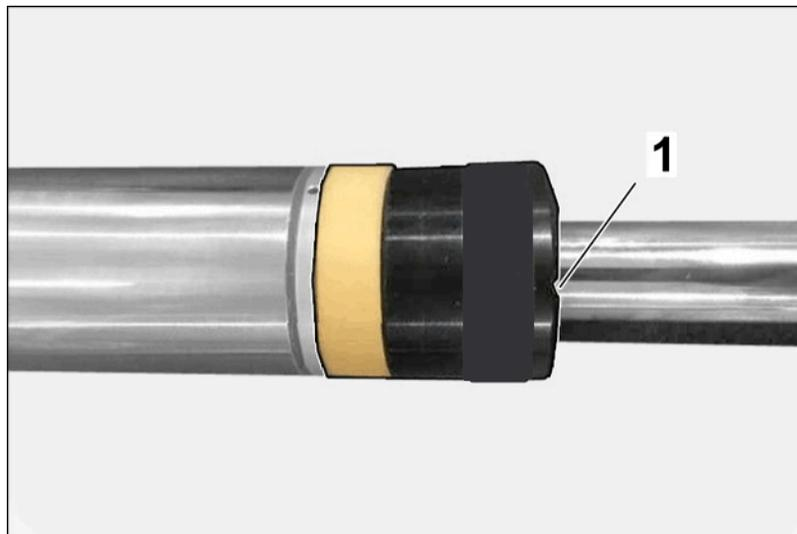

Figure 6
- 4. – All four components must be installed in the order shown! If necessary, the arrangement must be corrected! The grooves in the 4 mm (0.16 in) thick wheel spacer ⇒ Figure 6 -1- must point downwards (in the direction of the rebound adjustment).